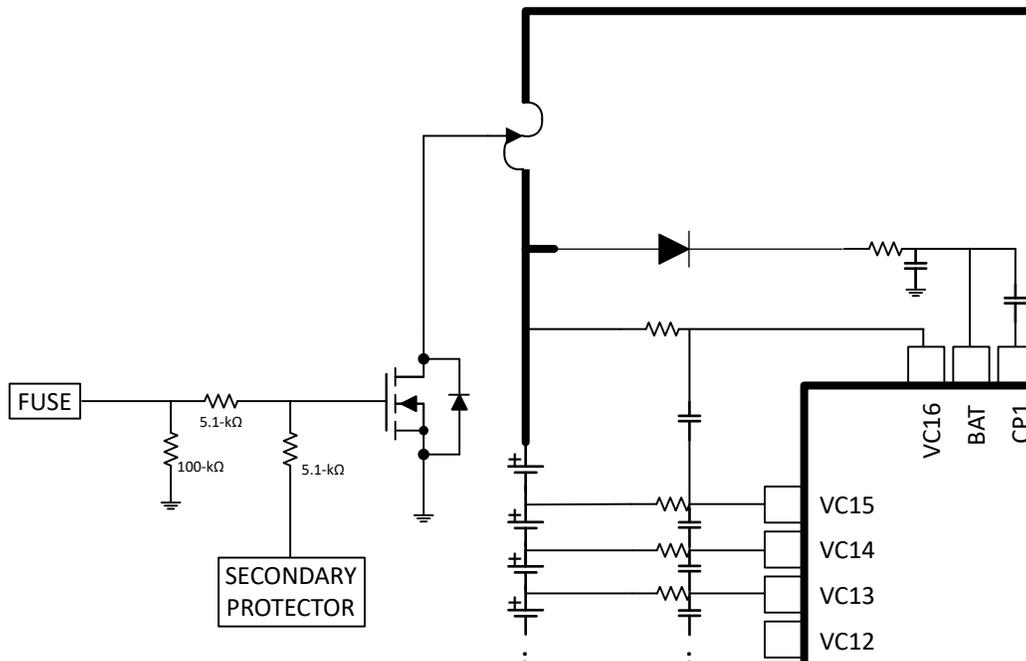

Figure 6-1. FUSE Pin Operation
The FUSE pin on the BQ76972 device can be used to blow a chemical fuse in the presence of a Permanent Fail (PF), as well as to detect if an external secondary protector in the system has detected a fault and is attempting to blow the fuse itself. The pin is intended to drive the gate of an NFET, which can be combined with the drive from an external secondary protector, as shown in Figure 6-1. When the FUSE pin is not being asserted by the BQ76972 device, it remains in a high-impedance state and can detect a voltage applied at the pin by a secondary protector. If the Second Level Protector PF is enabled (using the **Settings:Permanent**